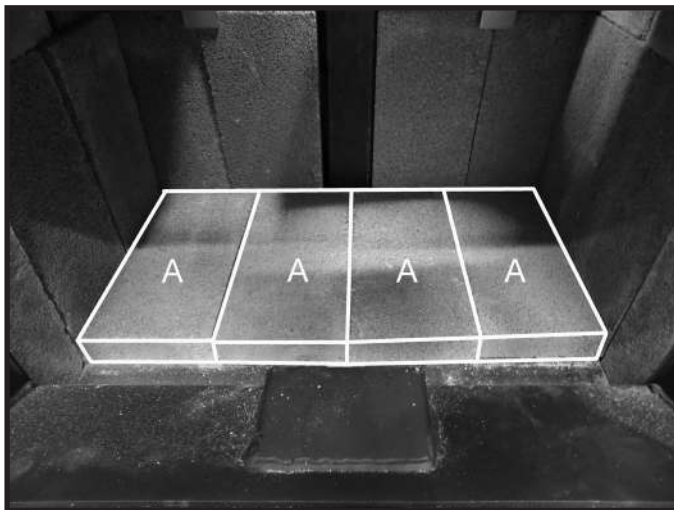

Figure 18: Four floor bricks in place.
3. Place four "A" firebricks on the firebox floor as shown in Figure 18.